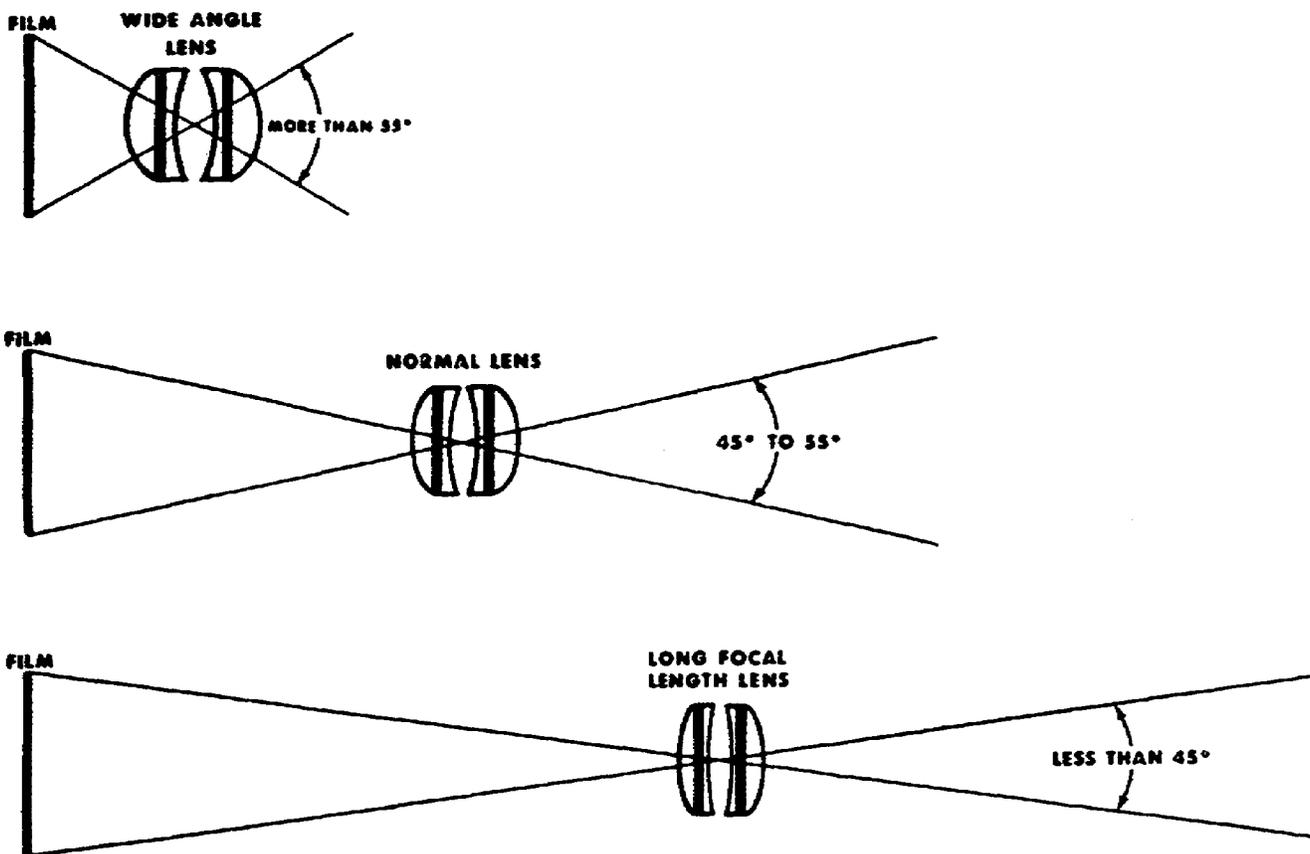

Figure 2-17. Angle of view for various focal length lenses.
(2) If the focal length is equal to the diagonal of the negative, the angle of view decreases as the subject distance is shortened.
(3) Since manufacturers usually produce lenses for specific negative sizes, they also prepare tables giving angles of view of commonly used lenses. Some manufacturers also list angle of view for vertical and horizontal measurements of film. For example, the readings for a 5-inch focal length lens are diagonal 65° , horizontal 53° , and vertical 44° .
(4) Figure 2-17 illustrates the angle of view for wide-angle, normal, and long focal length lenses.